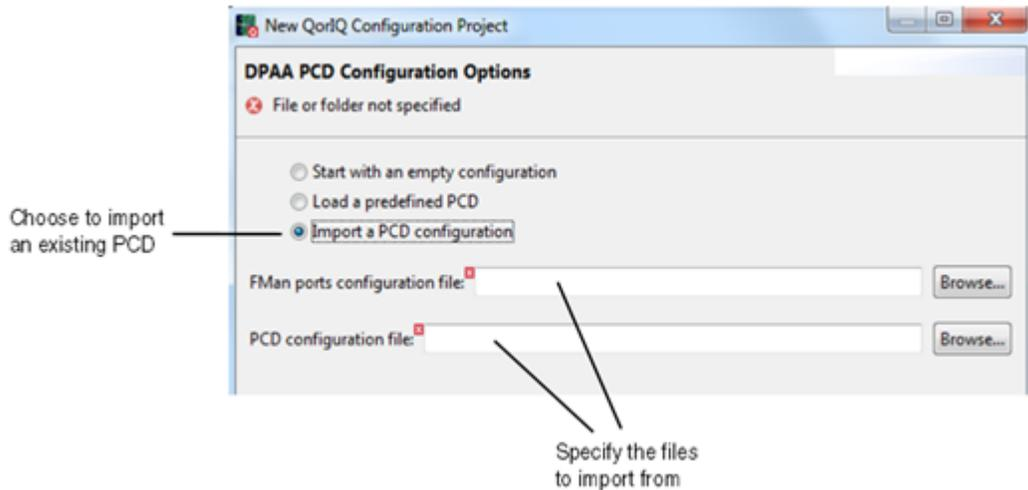

**Figure 2. Load an example configuration**
- Load an example PCD configuration: Allows you to choose a PCD configuration from a rich set of example PCD configurations provided by FDW (see Figure 2. Load an example configuration on page 6), and then refine the configuration to meet your requirements.